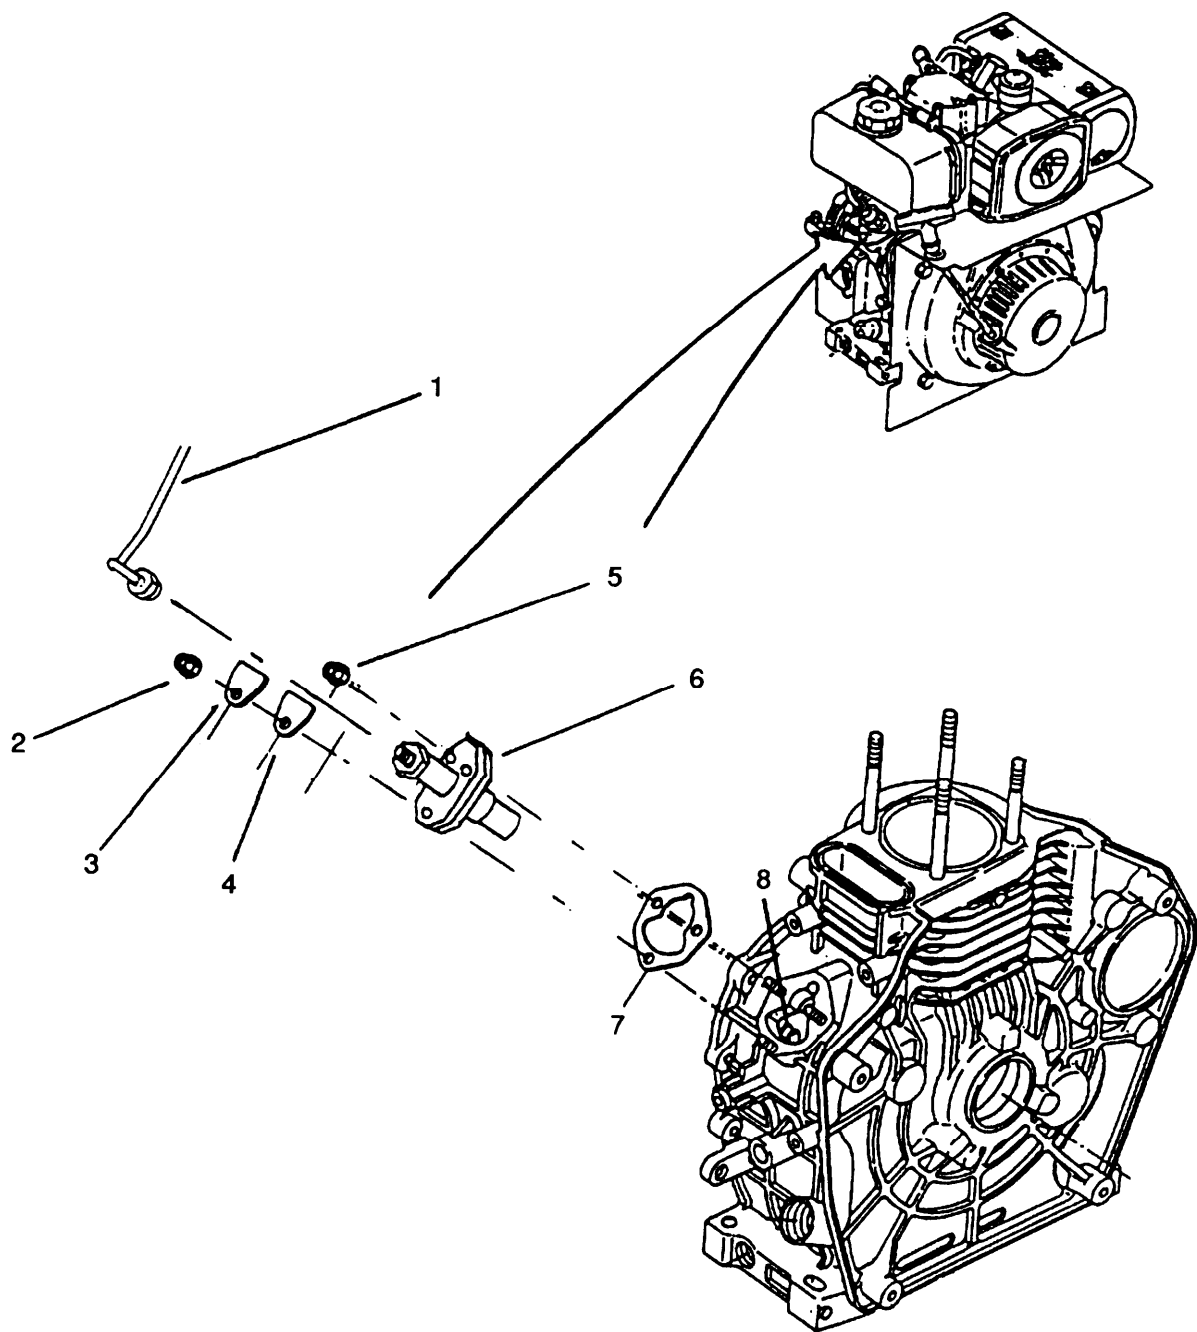

Figure 4-13. Replace Fuel Injection Pump
- (1) The fuel injection timing is adjusted by adding or removing shims (7) (refer to Figure 4-13) to speed up or slow down the actual fuel injection.
- (1) Loosen hex nut (2) and remove pump viewing access plate (3) and gasket (4). (Refer to Figure 4-13)
- (3) Adjust the fuel limiter adjust screw until the tip lightly touches the governor lever.
- (4) Install pump viewing access plate (3) and gasket (4), and tighten hex nut (2). (Refer to Figure 4-13)